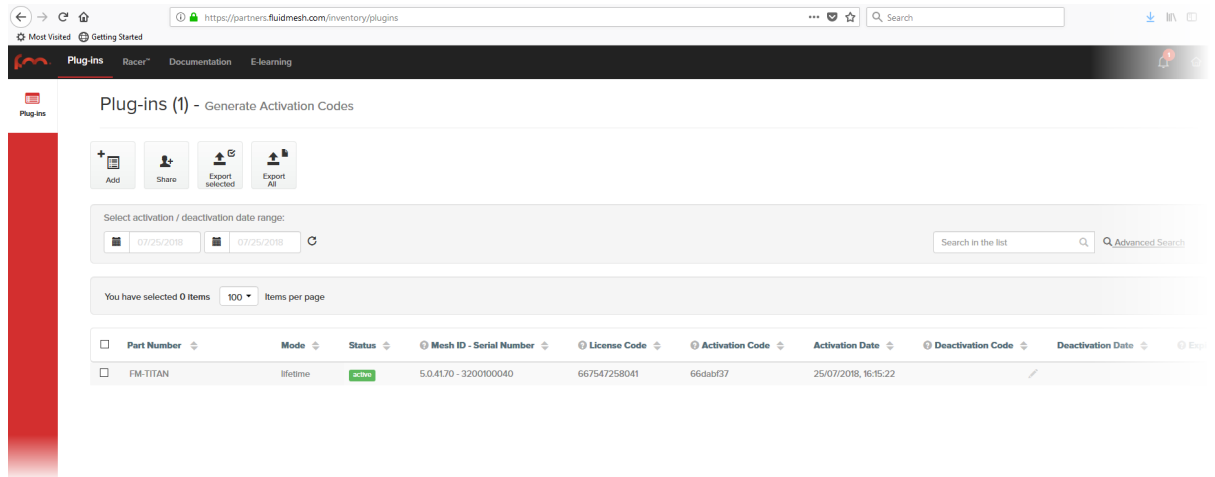

Figure 51. Partner Portal Plug-ins page (License code deactivation)
- The Plug-ins web page will be shown (Figure 51 \(page 108\)).